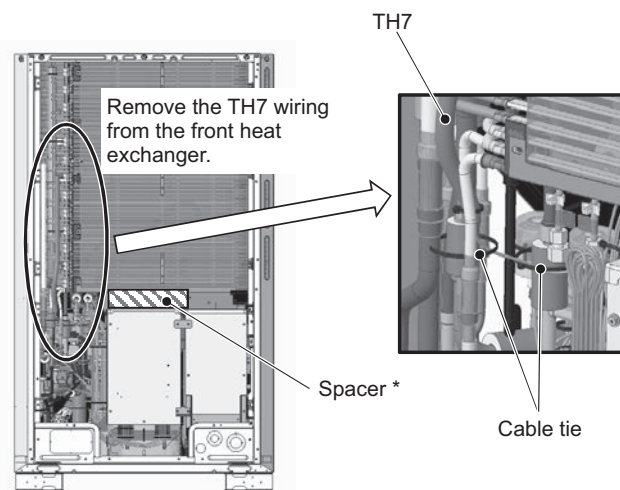

Figure 10
- (13) Remove the TH7 wiring from the front heat exchanger by cutting the cable tie. (See Figure 10.)